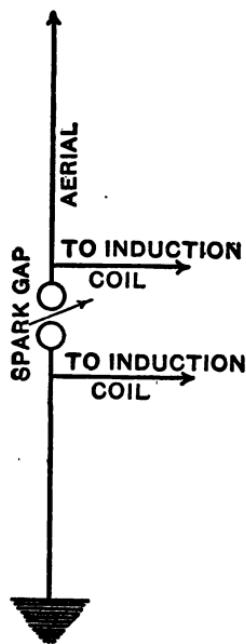

FIG. 161.—NON-TUNED
**Open Oscillation Circuits.**—In wireless telegraphy the aerial wire system forms an *open oscillation circuit*. In a simple open oscillation circuit the spark-gap is formed between the ends of the aerial and ground wire as shown in Fig. 161. Since no tuning coil or condenser is used with this open oscillation circuit the *inductance* and *capacity* are laid evenly along the straight wires, and both the inductance and the capacity are, therefore, very small.
**Coupled Oscillation Circuits.**—Since an open oscillation circuit, such as is shown in Fig. 161, changes the electric oscilla-